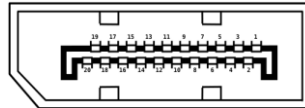

Figure 3-26: External DP Connector Pinouts
- CN Location:** See **Figure 3-26**